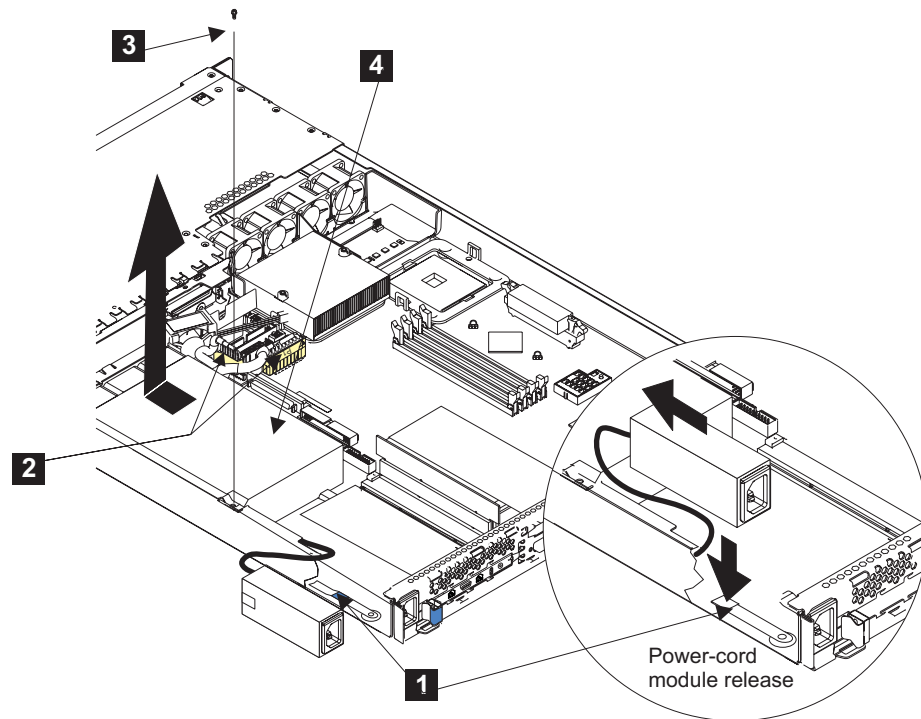

Figure 144. Removing the SAN Volume Controller 2145-4F2 power supply
5. Press down on the clip **1** at the front of the power-cable module, as shown in Figure 144 on page 417, and slide the module toward the front of the SAN Volume Controller 2145-4F2 until the alignment tab is free of the slot that is on the side of the SAN Volume Controller 2145-4F2.